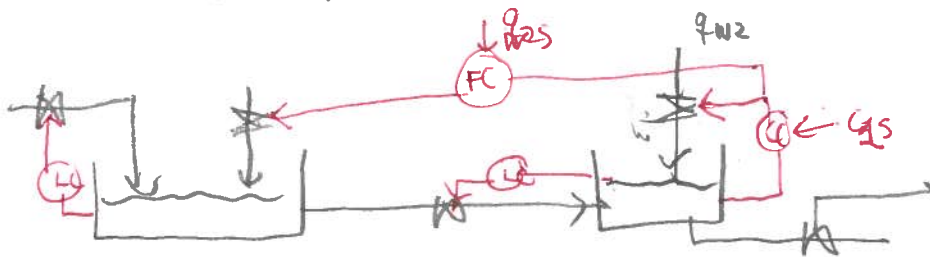

Fig. 2
- Also here the (L1) and (FC) could be interchanged (tank 1).
- Comment on structure 1 (feedback): The setpoint for G_1 needs to be decided. It could be set by a FC (or VPC) similar to Fig. 2.